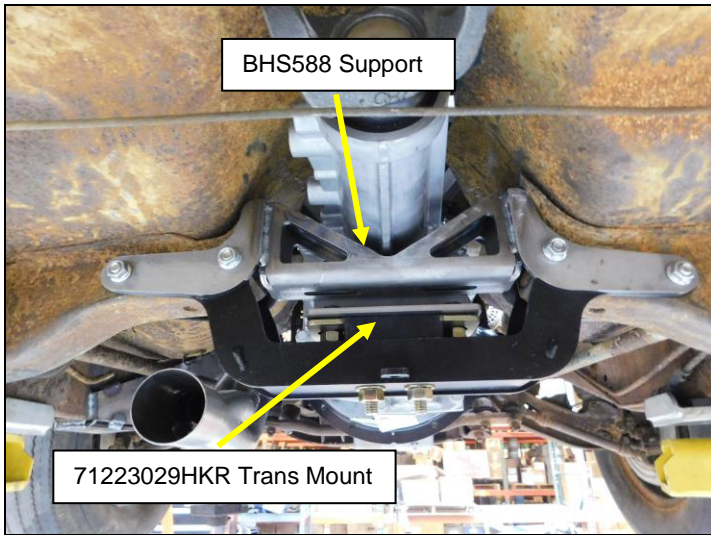

Figure 5
6. With the transmission installed in the car and supported, raise the BH588 support on to the torsion bar crossmember and install one 3/8 x 4" bolt on each side to hold it in place (**Figure 5**).